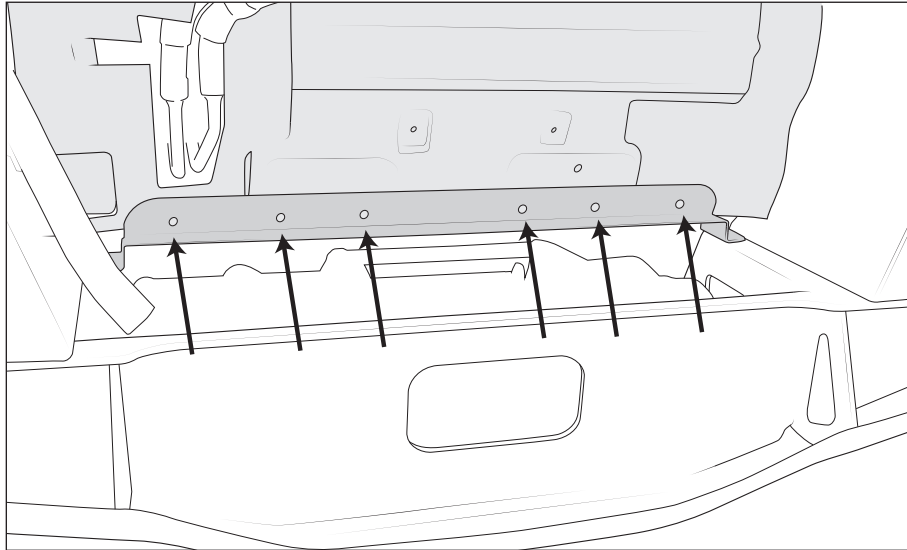

Figure 28
10. Drill UP through the bracket into the plastic air dam (fig. 28).